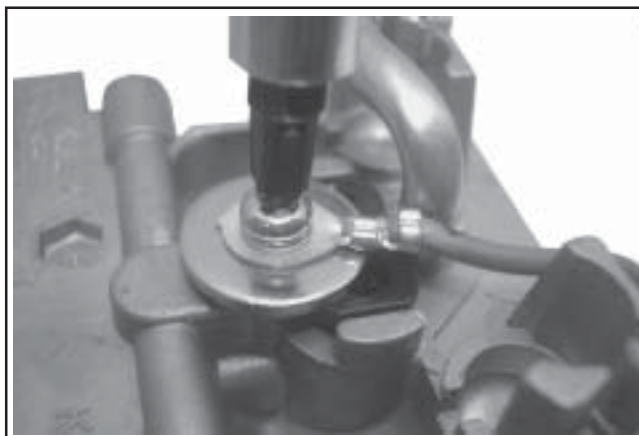

Figure 11-79. Connecting Ground Lead (Two-Barrel Carburetor).
4. Connect the ground lead and fuel solenoid lead as equipped. See Figure 11-79.